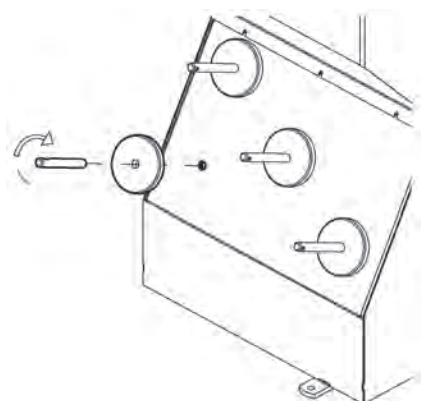

Figure 8
**C.** Install the accessory pins (Figure 8). Tighten firmly.